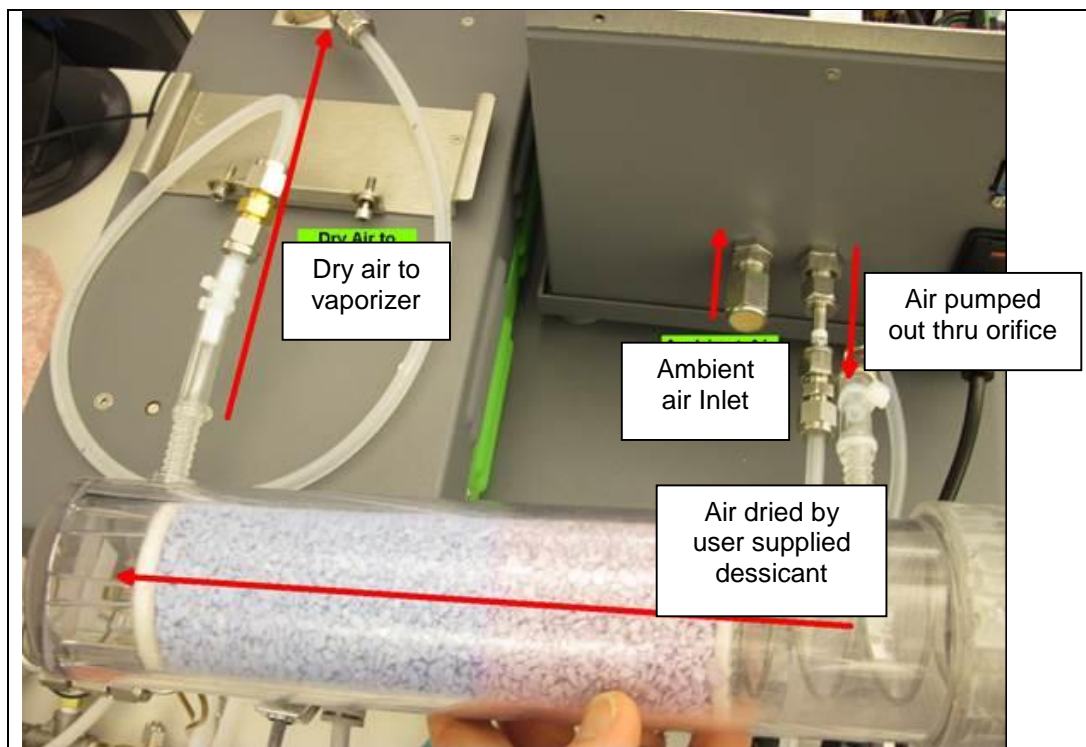

Figure 8 - SDM, User Supplied Desiccant, and the Vaporizer Setup.
- 22 Connect air output of SDM to supplied $\frac{1}{4}$ " tubing segment (**Figure 8**) with flow restrictor orifice (orifice side closest to SDM) then to desiccant canister using $\frac{1}{4}$ " tubing and Swagelok compression style fittings.
- 23 Connect output of desiccant canister to segment of $\frac{1}{4}$ " tubing (**Figure 8**) long enough to reach injector port of vaporizer. The end of the segment should be reduced to $\frac{1}{8}$ " male Swagelok compression style fitting.